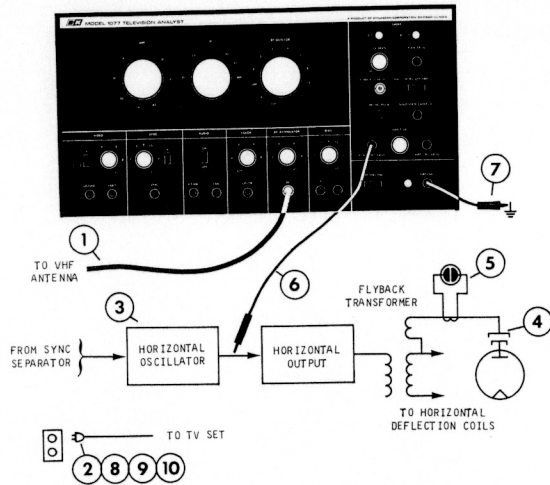

Figure 25. Connections for Horizontal Grid Drive Signal
J. HORIZONTAL GRID DRIVE SIGNAL (See Figure 25)